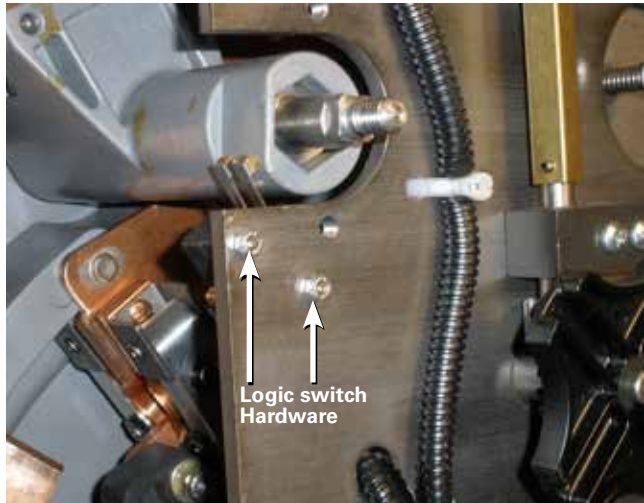

Figure 33. Reversing logic hardware.
- Use a small screw driver (or 5/32" Allen wrench) and a 1/4" wrench to loosen and remove the self-locking nuts and reversing logic switch mounting screws. See Figures 33 and 34.